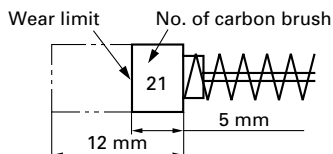

Fig. 15
4. Inspecting the carbon brushes (Fig. 15)